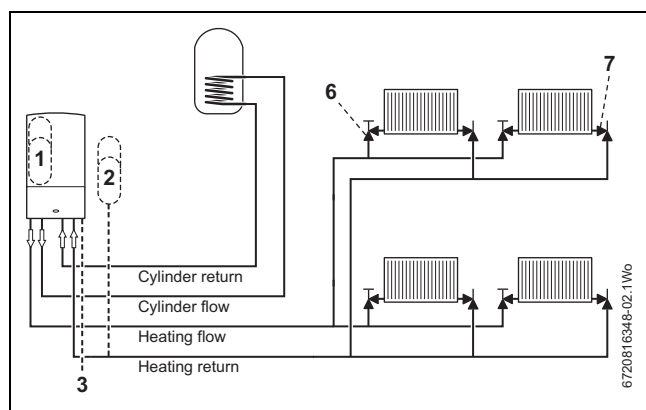

Fig. 3 General pipe layout
In all cases the cylinder manufacturer must be contacted for confirmation their product is suitable for the installation layout shown in figure 3.
- The general layout (figure 3) can be used for unvented cylinder by utilising the high limit thermal cut out of the cylinder dual-thermostat to interrupt the permanent live to the appliance, preventing any heat being produced from the appliance. Wiring example → section 5.7.6, page 18.
Table 5 Key to figures 3 & 4